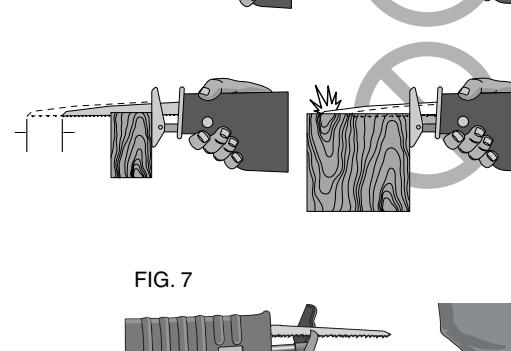

FIG. 6
1. Open blade clamp release lever (C) up (Fig. 6).